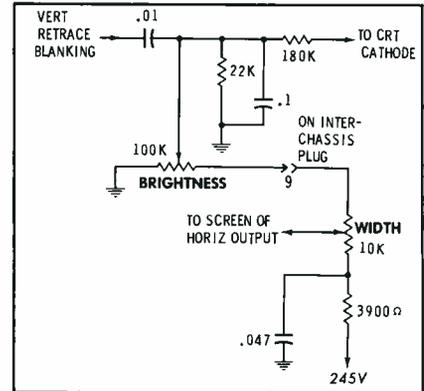

Fig. 4. Possible source of raster shading in the Philco Chassis 91 and J-1.
To give another example, some of the old Philco split-chassis receivers have series-connected brightness and width controls to minimize the change in raster size at different brightness levels. The version of this circuit used in Chassis 91 (RF) and J-1 (sweep) is shown in Fig. 4. Normally, not much signal voltage is developed in the width-control circuit because of the bypassing action of a .047-mfd capacitor connected to the bottom of the control. If this capacitor opens, a fairly substantial signal with roughly a sawtooth waveshape develops in the width-control circuit. This reduces width, and at the same time results in a gradual variation in background brightness across the screen. The latter is produced because some of the sawtooth signal reaches the